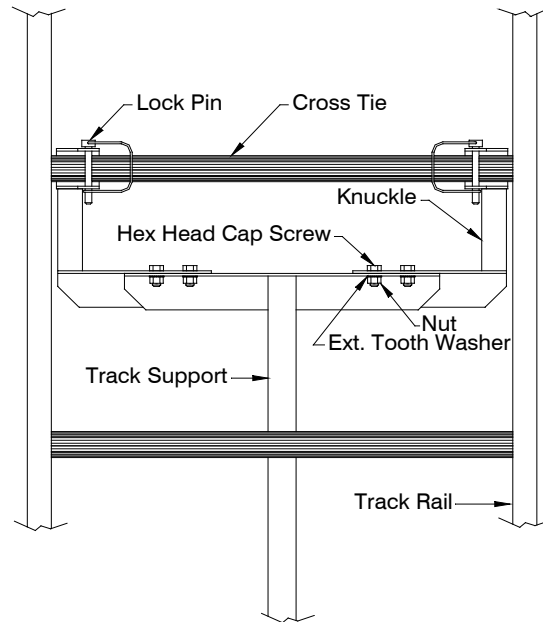

Figure 3-4.
1. Refer to Figure 3-4. Using the four 3/8 x 3/4” hex head cap screws, four 3/8” nuts, and four external tooth lock washers, securely fasten both the flanges and the knuckles of the support. Align the outermost pairs of mounting holes to make the knuckles flush with the end of the corresponding flange.
2. See Figure 3-4, & refer to Table 3-1 to determine the cross tie on which to mount the support. With the track installed in its operating position against the building, use a ladder to raise the track support and knuckle assembly to the selected track cross tie. Fasten the track support knuckles to the cross tie using the provided lock pins.